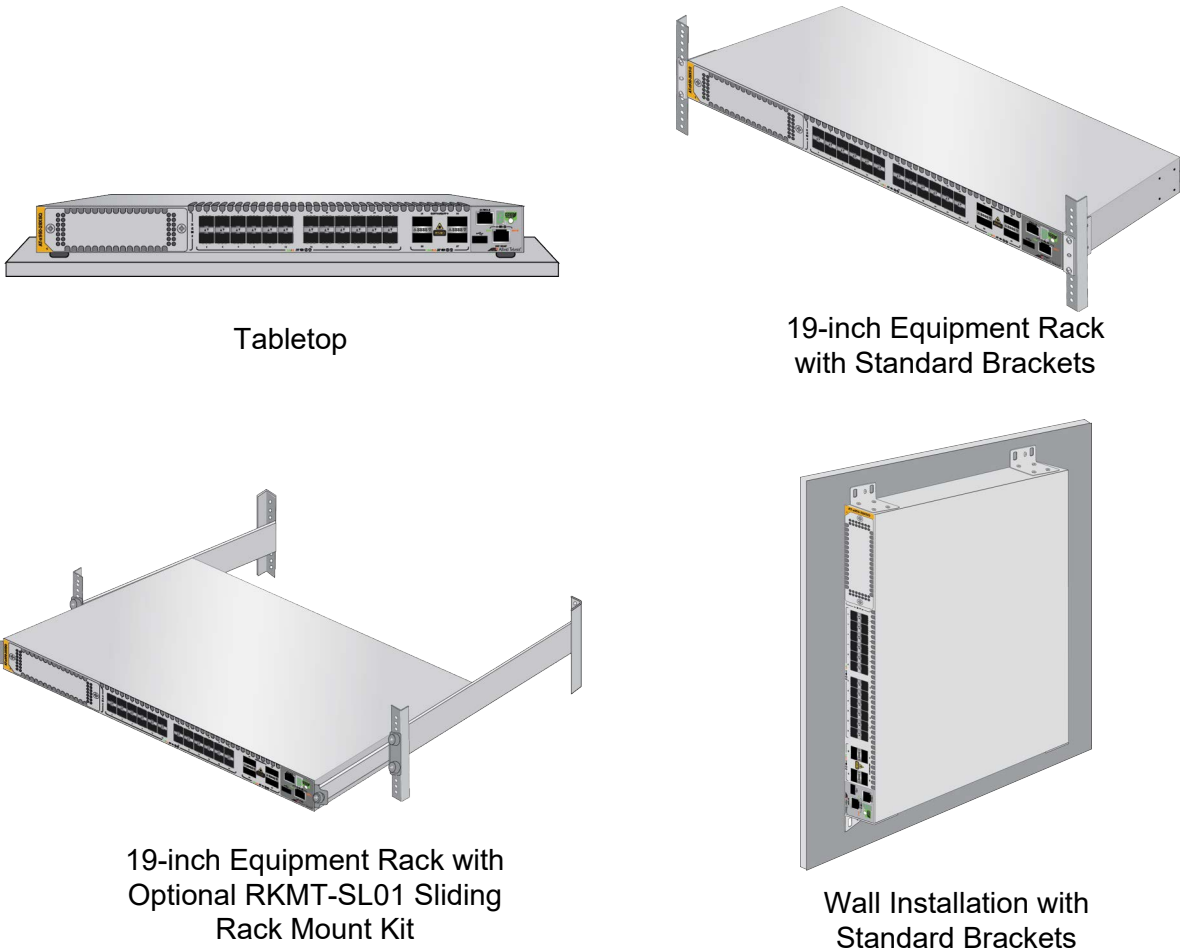

Figure 48. Installation Options
- ❑ The switch has four orientation options. Refer to Figure 48.